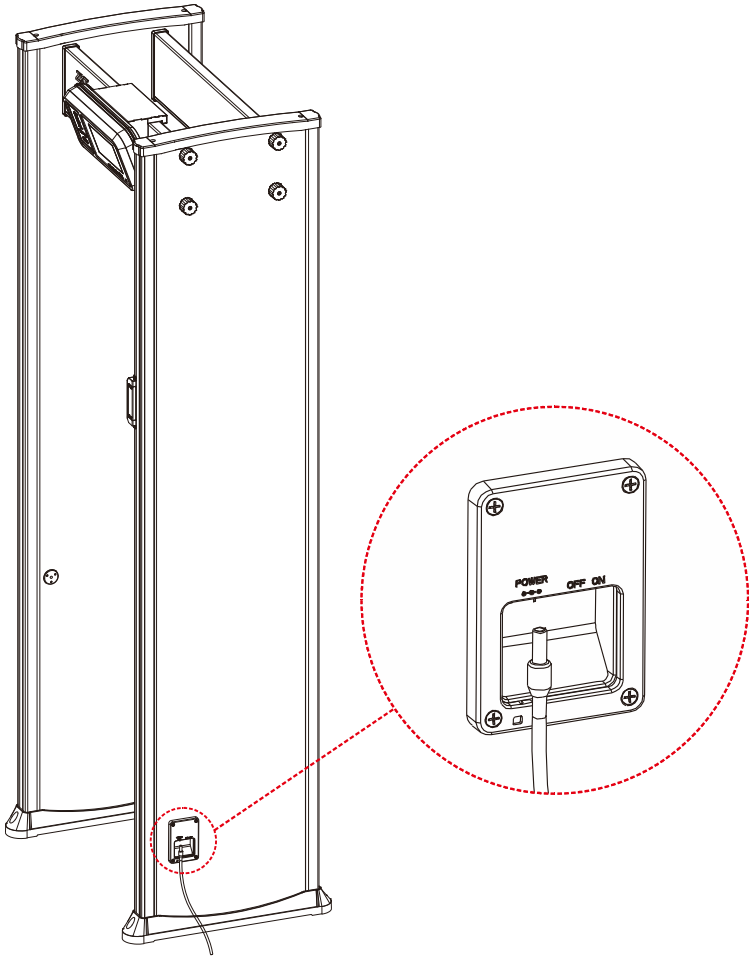

Figure 3-10
**Step 10:** Lift and move the security gate to the designated working position, connect the side power cord, and press the power switch to enter the working state, as shown in the figure 3-10 below.